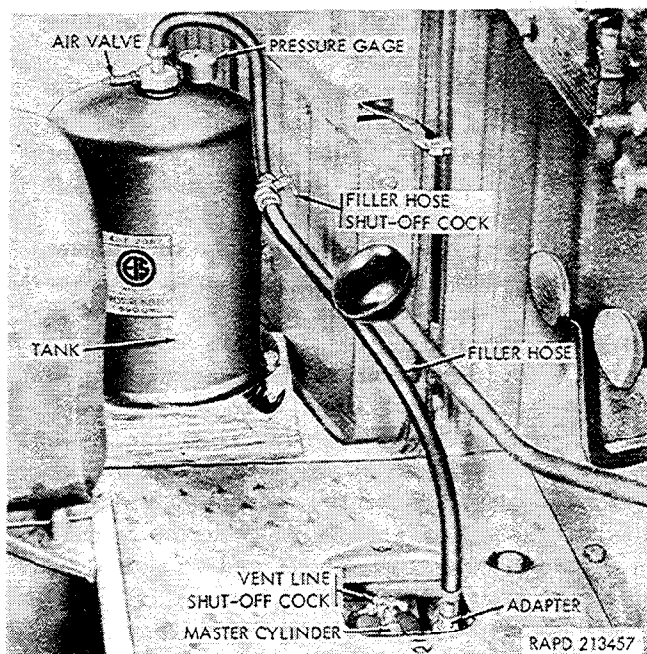

Figure 2-151. Pressure filler connected to master cylinder.
(1) Turn the master cylinder access cover studs 90 degrees counterclockwise and remove the cover from the floor panel in the driver's compartment (fig. 2-151).
b. Bleed Brake System, Using Pressure Filler (Fig. 2-151).
(1) Remove the master cylinder access cover (para 2-126 *b* (1)). Close the master cylinder vent line shutoff cock. Clean top of master cylinder and remove the filler plug.